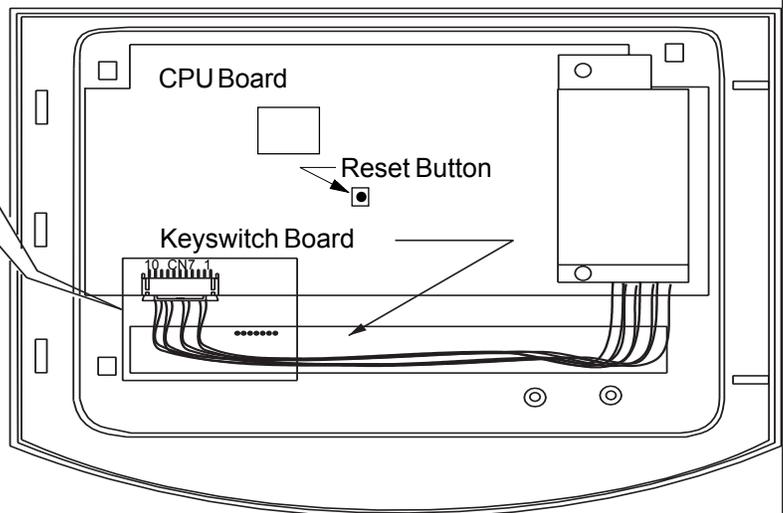

Figure 2
- 4) Push Reset Button (blue) located in center of CPU Board (see **Figure 2**). Display will initialize.
- 6) Locate Test Plug Connector. It is located on back side of Keyswitch Board (see **Figure 2 & 2b**).